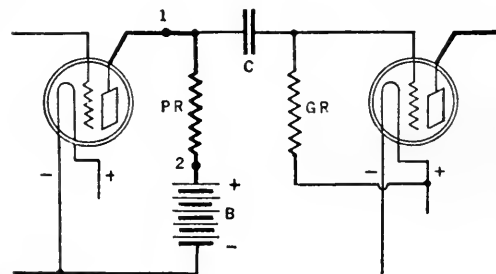

FIG. 2
**M**ANY constructors have endeavored to add resistance-coupled amplification to their two-tube Roberts receivers with varying results. Some were successful, others not. If the circuit is observed and analyzed, it will be noted that the input connections to the first resistance coupler are not like that of a transformer-coupled amplifier. The detector-plate resistance, having B-battery current flowing through it, is isolated from the grid of the next tube by an isolating or blocking condenser. These points are brought out in Fig. 2.
Now supposing a pair of leads are brought from the output of a tube, such as at 1-2 Fig. 2, and are connected to the plate resistance of the resistance